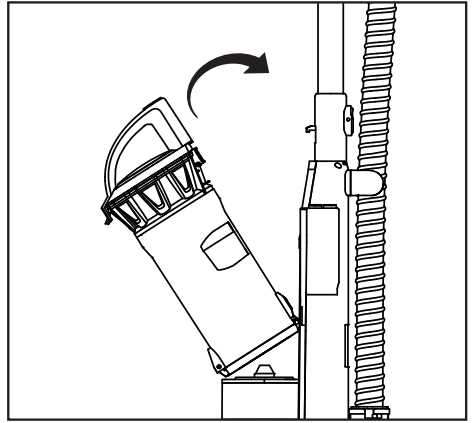

Fig. 1
- Remove the dust cup from the vacuum by pressing the upper dust cup release button on top of the dust cup (Fig. 1).